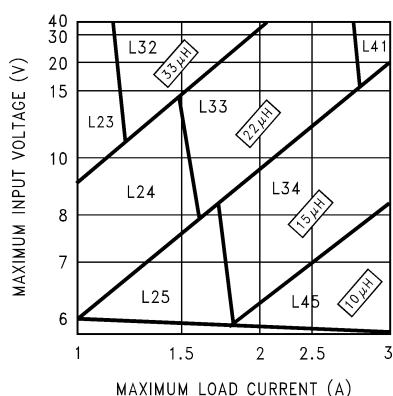
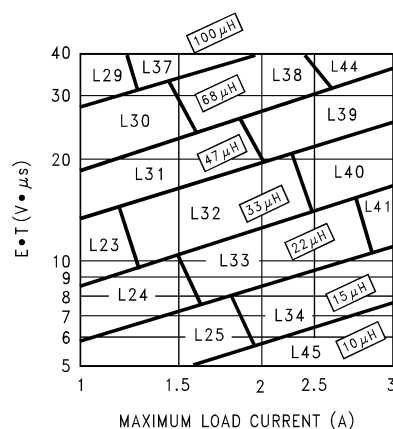

Figure 21. LM2676-3.3
Figure 24. LM2676-ADJ
Step 3: Determine the inductor required by using one of the four nomographs, Figure 21 through Figure 24. Table 1 provides a specific manufacturer and part number for the inductor.
Step 5: Determine an input capacitor from Table 8 or Table 9 for fixed output voltage applications. Use Table 3 or Table 4 to find the specific capacitor type. For adjustable output circuits select a capacitor from Table 3 or Table 4 with a sufficient working voltage (WV) rating greater than $V_{in\ max}$, and an rms current rating greater than one-half the maximum load current (2 or more capacitors in parallel may be required).
Step 3: Use the nomograph for the 3.3V device, Figure 21. The intersection of the 16V horizontal line ($V_{in\ max}$) and the 2.5A vertical line ($I_{load\ max}$) indicates that L33, a 22 μ H inductor, is required.
Step 3: To use the nomograph for the adjustable device, Figure 24, requires a calculation of the inductor Volt•microsecond constant (E•T expressed in V• μ S) from the following formula:
Using Figure 24, the intersection of 27V• μ S horizontally and the 2A vertical line (I_{load} max) indicates that L38, a 68 μ H inductor, should be used.
When using the adjustable device in low voltage applications (less than 3V output), if the nomograph, Figure 24, selects an inductance of 22 μ H or less, Table 12 and Table 13 do not provide an output capacitor solution. With these conditions the number of output capacitors required for stable operation becomes impractical. It is recommended to use either a 33 μ H or 47 μ H inductor and the output capacitors from Table 12 or Table 13.